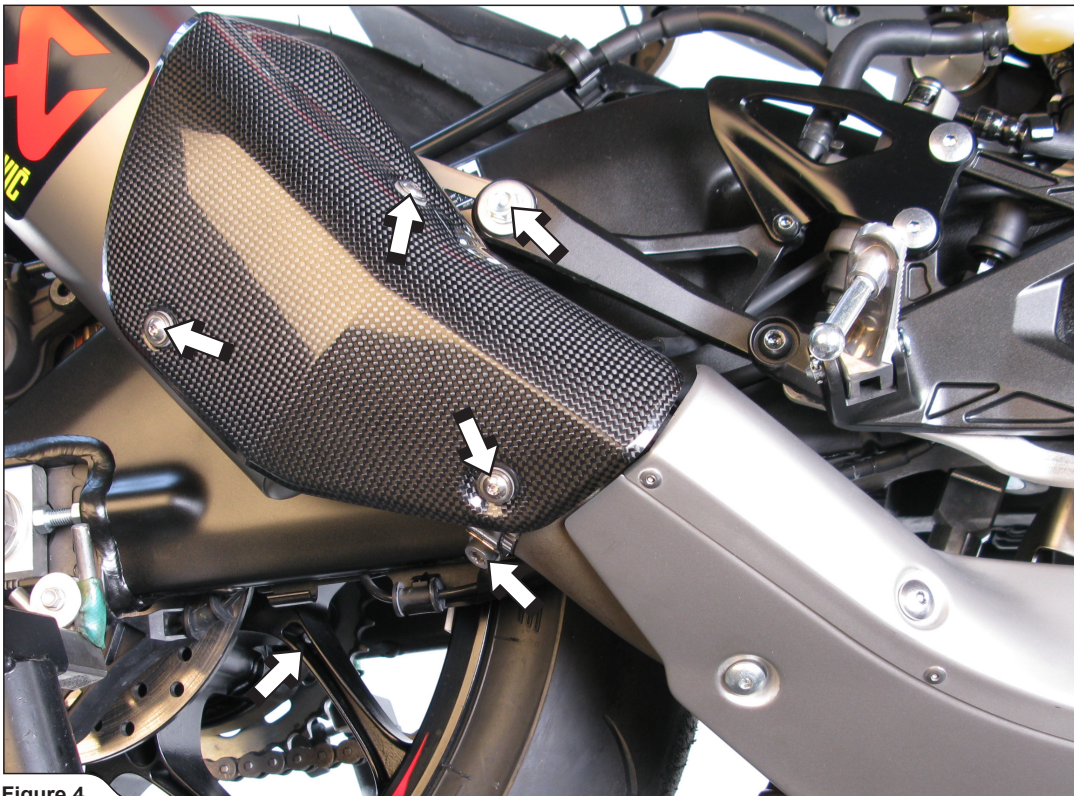

Figure 4
4. Unscrew marked heat shield bolts and remove Akrapovič heat shield from the muffler. Unscrew muffler's clamp and bracket bolt and remove Akrapovič muffler off the motorcycle (**Figure 4**).